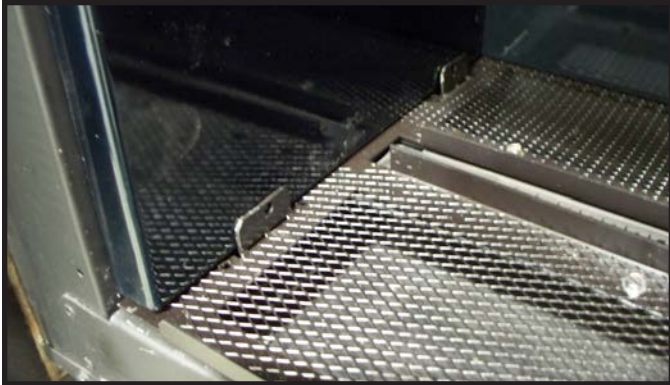

Figure 8. Bend Tabs Toward Panel
5. Bend the tabs mentioned on step 3 toward the porcelain panel. See Figure 8.